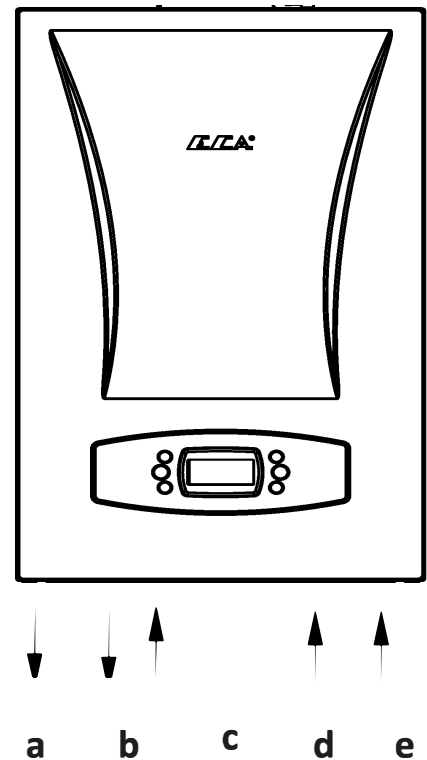

Figure 12
- Water and gas supply connections between the boiler and the mounting bracket can be fixed with the optional pipes and the nipples as shown in Figure 12.